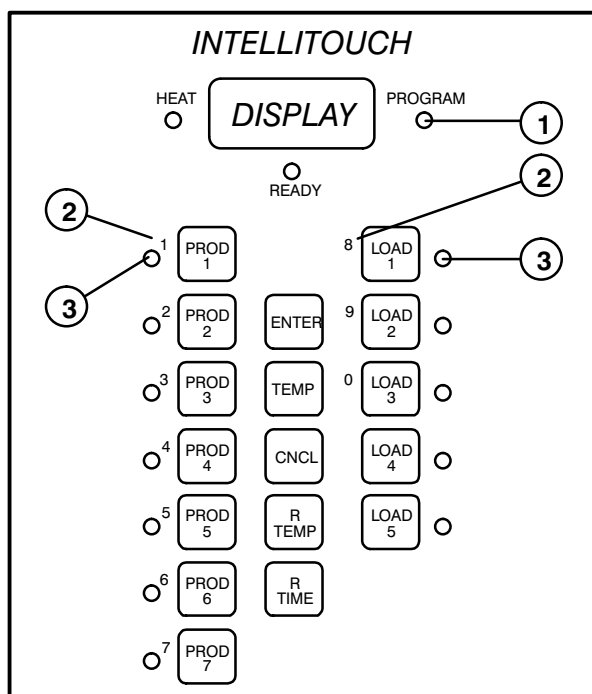

FIGURE 23
*NOTE: The LED's (3) are located next to the product and load keys. The LED identification numbers (2) are located to the left of the product and load keys. See FIGURE 23.*